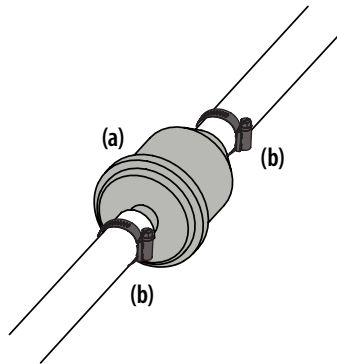

Figure 5-34
5. To remove the in-line fuel filter clamps (b), then slide the clamps (b) away from the in-line fuel filter (a). Twist and pull the fuel lines off of the in-line fuel filter (a). See Figure 5-34.